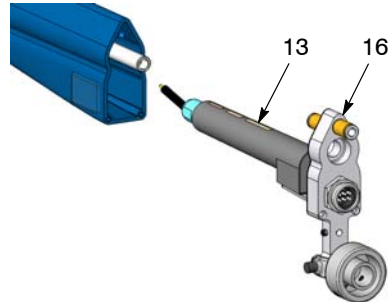

Figure 31 Removing the Multiplier from the Housing
2. See Figure 31. Pull the heat sink (16), with multiplier (13) attached, out of the housing.